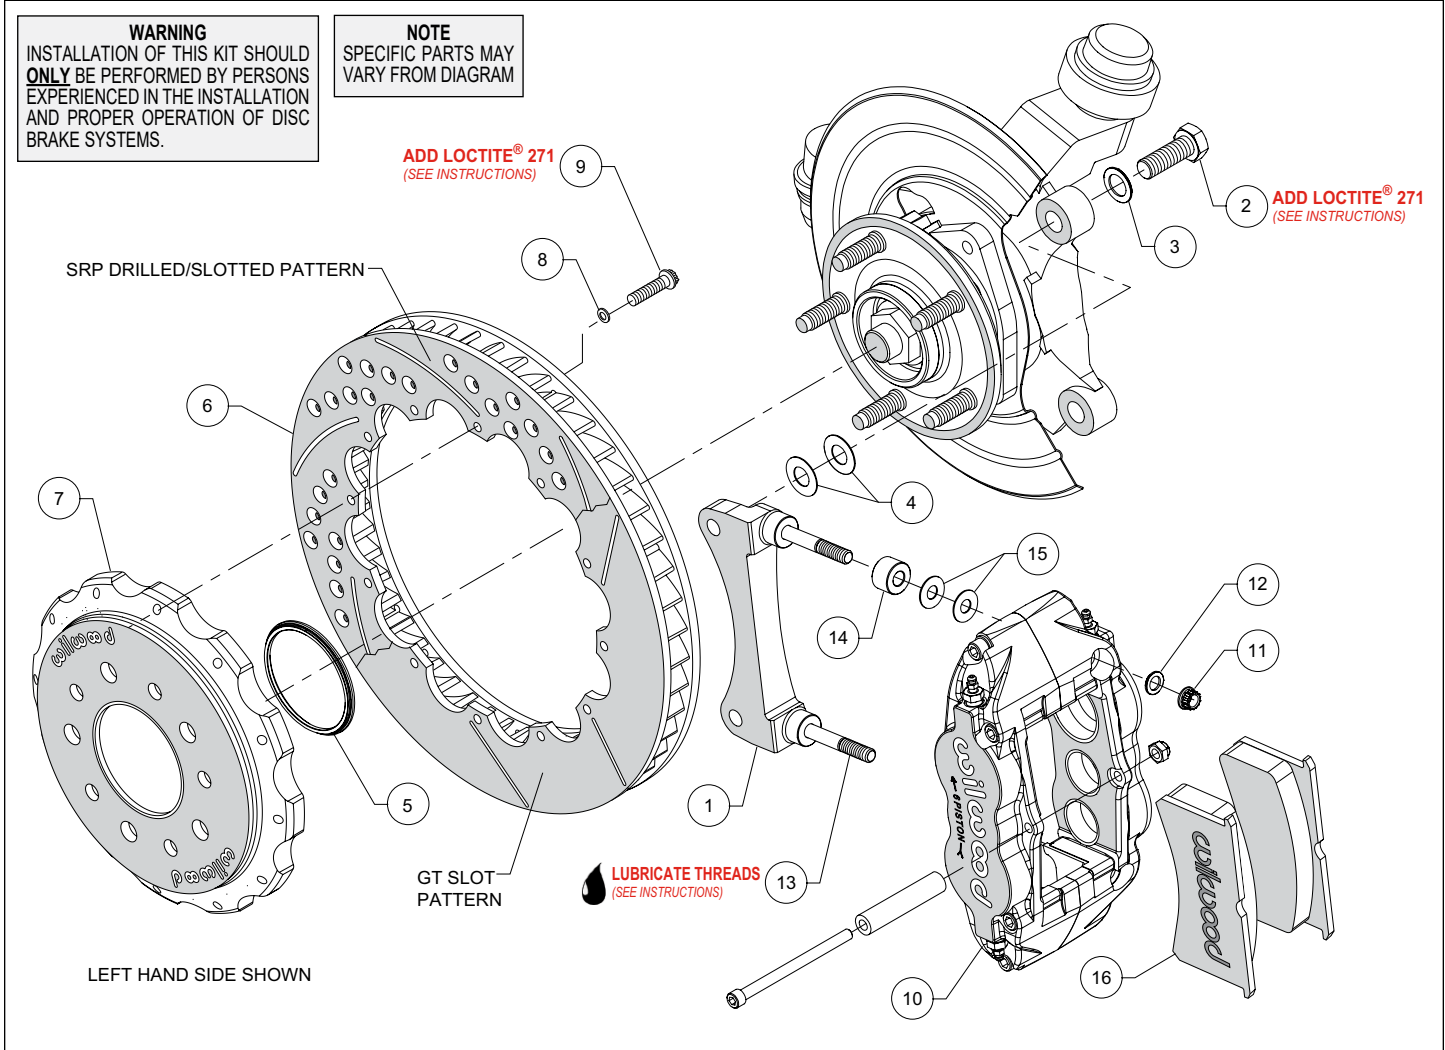
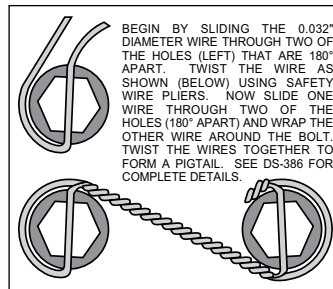

Figure 1. Typical Installation Configuration
Figure 3. Safety Wire Diagram
**NOTE:** Numbers in parenthesis refer to the parts list and Figure 1 on the preceding pages.
- The caliper mount bracket (1) should initially be installed with clean, dry threads on the mounting bolts. Orient the bracket as shown in Figure 1 and Photo 1 and install using mount bolts (2) and washers (3). Initially place two .029" thick shims (4) on each bolt between the bracket and upright, Figure 1. Temporarily tighten the mounting bolts. **NOTE:** The bracket must fit squarely against the mount bosses on the upright. Inspect for interference from casting irregularities, machining ridges, burrs, etc. Later, after the caliper alignment has been checked, the mount bolts will be secured using red *Loctite*® 271.
- Orient the rotor (6) and the hat (7) as shown in Figure 1 and Photo 2. Attach rotor to hat using bolts (9) and washers (8). Apply red *Loctite*® 271 to the bolt threads and torque to 155 in-lb using a criss-cross pattern. For an added measure of security, the bolts may be safety wired using standard 0.032 inch diameter stainless steel safety wire as shown in Figure 3. Please refer to Wilwood's data sheet DS-386 (available at [www.wilwood.com/Pdf/DataSheets/ds386.pdf](http://www.wilwood.com/Pdf/DataSheets/ds386.pdf)) for complete safety wire installation instructions.
- **NOTE:** This kit contains distinct right and left hand calipers that must be mounted in a specific direction, as described below. Lubricate the caliper mounting studs (13) with lightweight oil. Initially place two .035" thick shims (15) and one spacer (14) on each stud as shown in Figure 1 and Photo 7. Mount the caliper (10) onto the bracket (1) using lock nuts (11) and washers (12), Figure 1. Ensure that the caliper is mounted so the largest pistons are at the rotor exit end of the caliper, in relation to the direction of rotor rotation. Temporarily tighten the lock nuts and view the rotor through the top opening of the caliper. The rotor should be centered in the caliper, Photo 8. If not, adjust by adding or subtracting shims (4) between the bracket and the upright. Always use the same amount of shims on each of the two mounting bolts. Once the caliper alignment is correct, remove the bracket mounting bolts one at a time, apply red *Loctite*® 271 to the threads, and torque to 75 ft-lb.